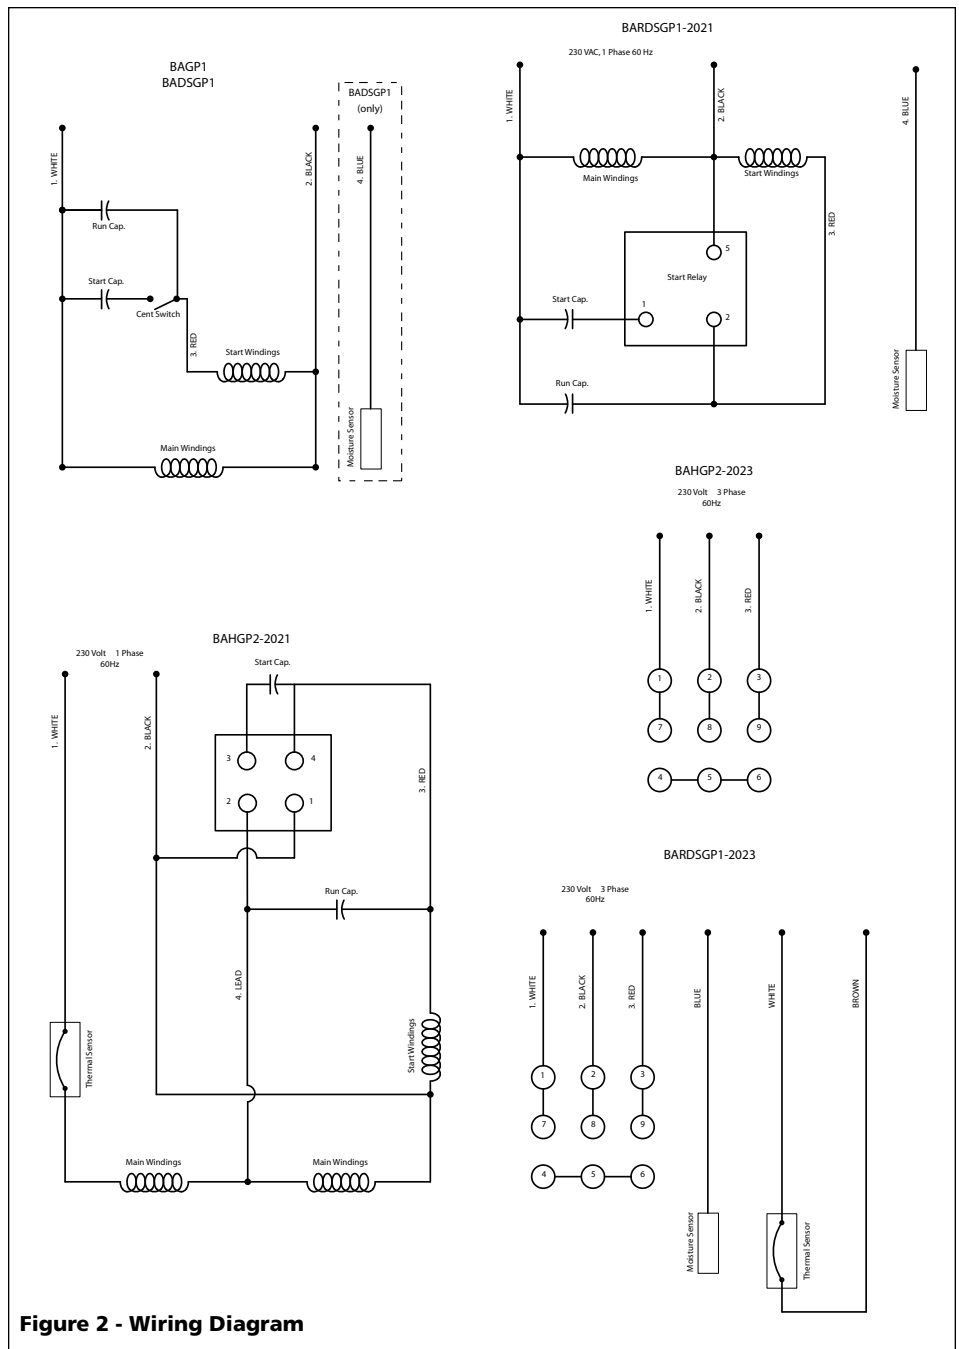

Figure 2 - Wiring Diagram
5. Connect the pump to its own circuit with nothing else on the circuit. See Chart 1 for pump motor specifications. See Figure 2 for wiring diagram. Use a Control Panel sized to match the pump. Refer to Control Panel installation instructions for wiring connections information.
Refer to Wiring Diagrams for model specific wiring directions (See Figure 2).